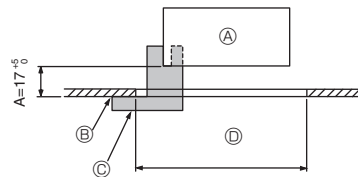
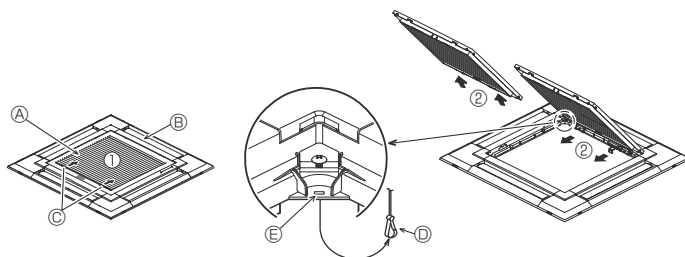
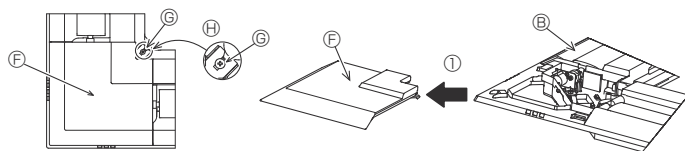

Fig. 9-2
Fig. 9-3
Fig. 9-4
①	Grille	1	950 × 950 (mm)
②	Installation gauge	1	(Divided into 4 parts)
③	Wireless remote controller	1	For PLP-6EALM2
④	Remote controller holder	1	Included when equipped with the wireless remote controller. *
⑤	LR6 AA batteries	2	Included when equipped with the wireless remote controller. *
⑥	3.5 × 16 tapping screws	2	Included when equipped with the wireless remote controller. *
9.2. Preparing to attach the grille (Fig. 9-2)
- With the gauge ② supplied with this kit, adjust and check the positioning of the main unit relative to the ceiling surface. If the main unit is not properly positioned relative to the ceiling surface, it may allow air leaks or cause condensation to collect.
- Ⓒ Installation gauge ② (inserted into the main unit)
9.2.1. Removing the intake grille (Fig. 9-3)
- Slide the levers in the direction indicated by the arrows ① to open the intake grille.
- With the intake grille in the "open" position, remove the hinge of the intake grille from the grille as indicated by the arrows ②.
9.2.2. Removing the corner panel (Fig. 9-4)
- Loose the 4 screws on the corner. Slide the corner panel in the direction of the arrow ① in the figure and remove the corner panel.
[Fig. 9-3] [Fig. 9-4]